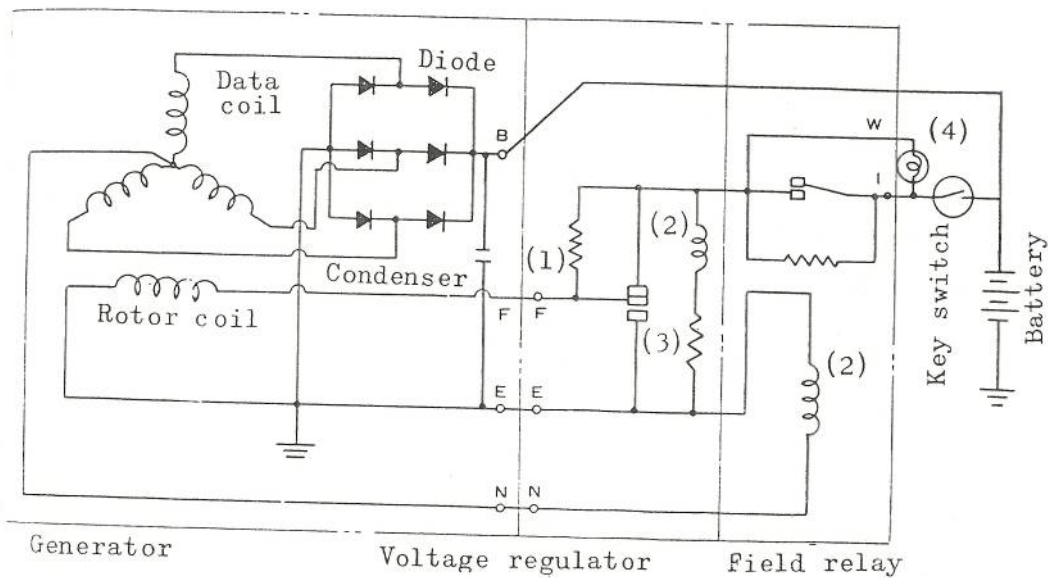
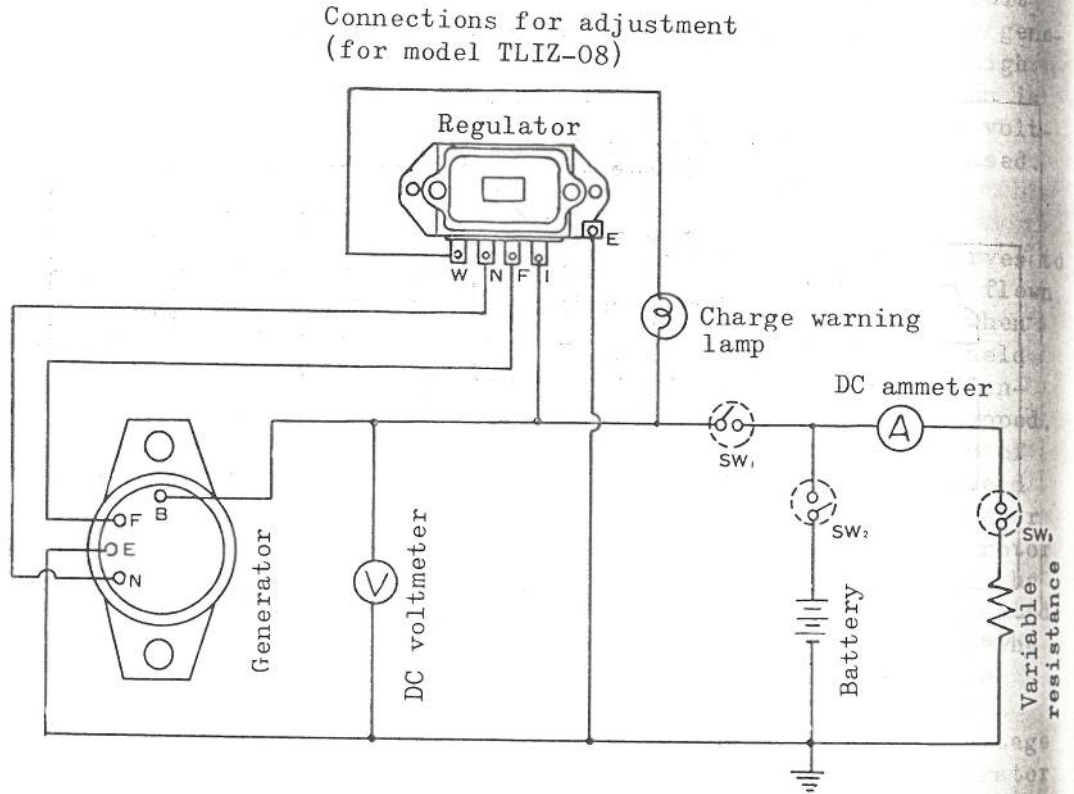

Fig. 10-12
Fig. 10-13
The internal connections of the generator, regulator and their associated parts are illustrated in Fig. 10-12 while the method of connection for adjustment is illustrated in Fig. 10-13. All the terminals should be tightly fastened to their corresponding leads noting their marks.
tion for adjustment is illustrated in Fig. 10-13. All the terminals should be tightly fastened to their corresponding leads noting their marks.
3) Make the necessary connections as illustrated in Fig. 10-13 upon completion of the adjustment of gaps.